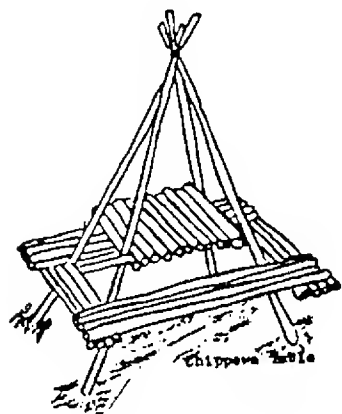

Figure 414 Chippewa Table
37. Build a Chippewa Table: See Figure 414.